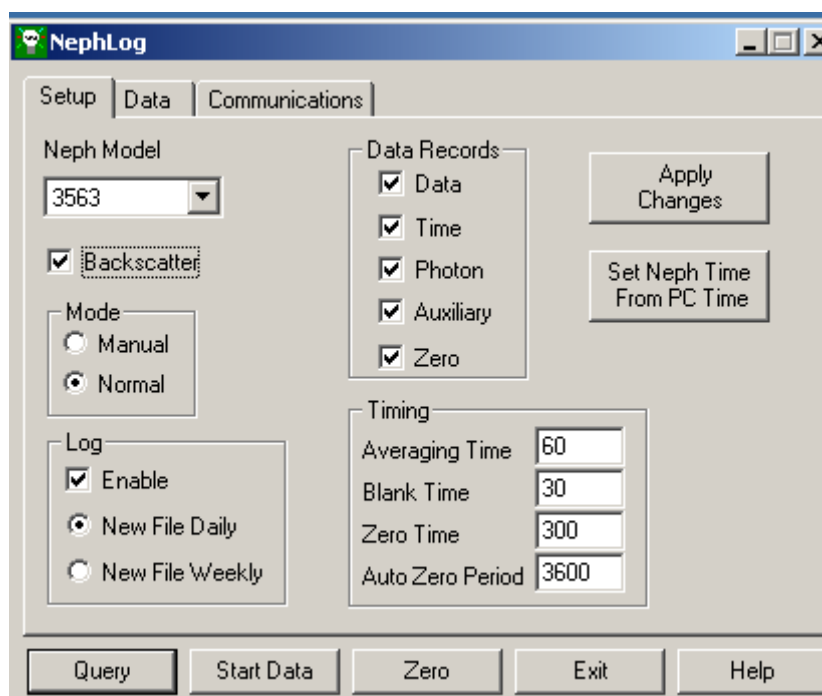
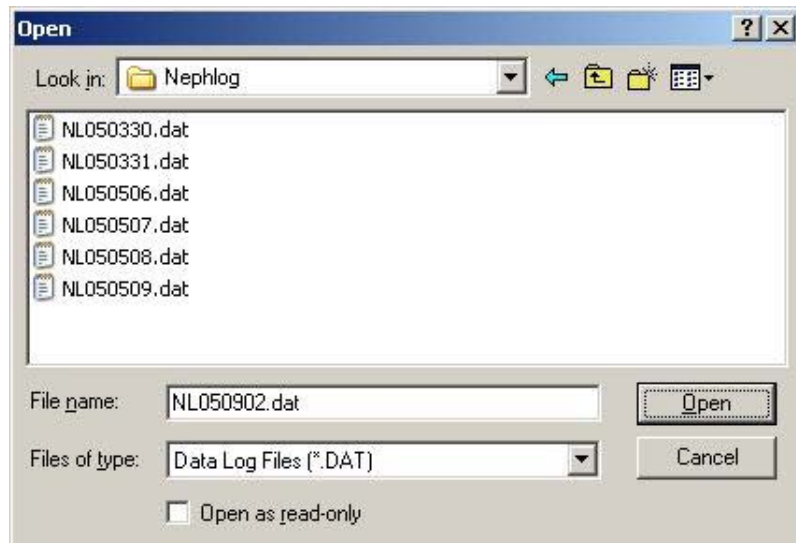

Figure 4-2
Figure 4-5
3. Start the NephLog program by clicking on the NephLog icon (). The NephLog Program interface is displayed (Figure 4-2).
6. Click the **Setup** tab. The Setup options become available (Figure 4-2).
11. Click the **Data** tab (Figure 4-2) and then the **Start Data** button. As shown in Figure 4-5, an Open File dialog box opens (if **Log | Enable** box is checked in the Setup Tab. See step 8).